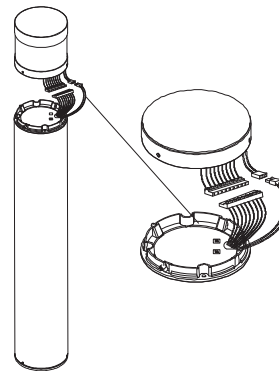

Fig. 8
7. Connect the fixture head to the shaft via the connectors. (Fig 8)